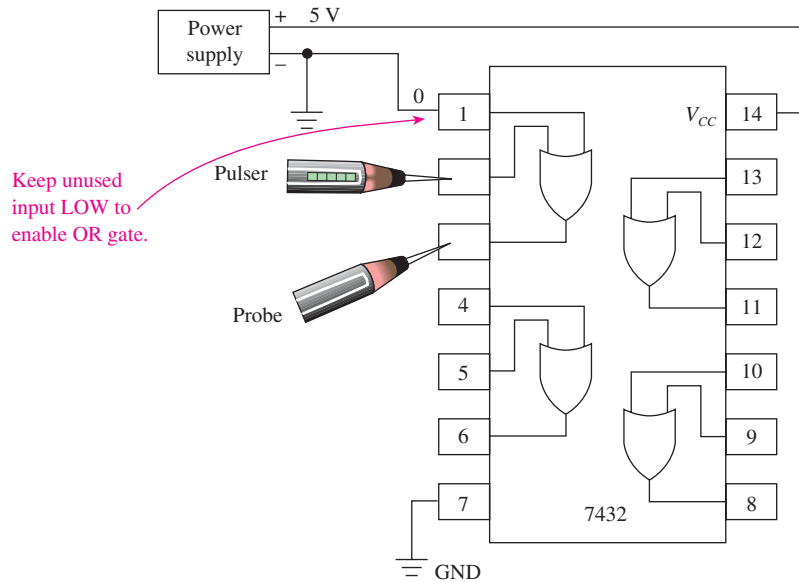

Figure 25 Connections for troubleshooting one OR gate of a 7432 IC.
Solution: The connections are shown in Figure 25. The probe should be flashing if the gate is good. Notice that the second input to the OR gate being checked is connected to a LOW (0) instead of a HIGH. The reason for this is that the output would *always* be HIGH if one input were connected HIGH. Because one input is connected LOW instead, the output will flash together with the pulses from the logic pulser if the gate is good.